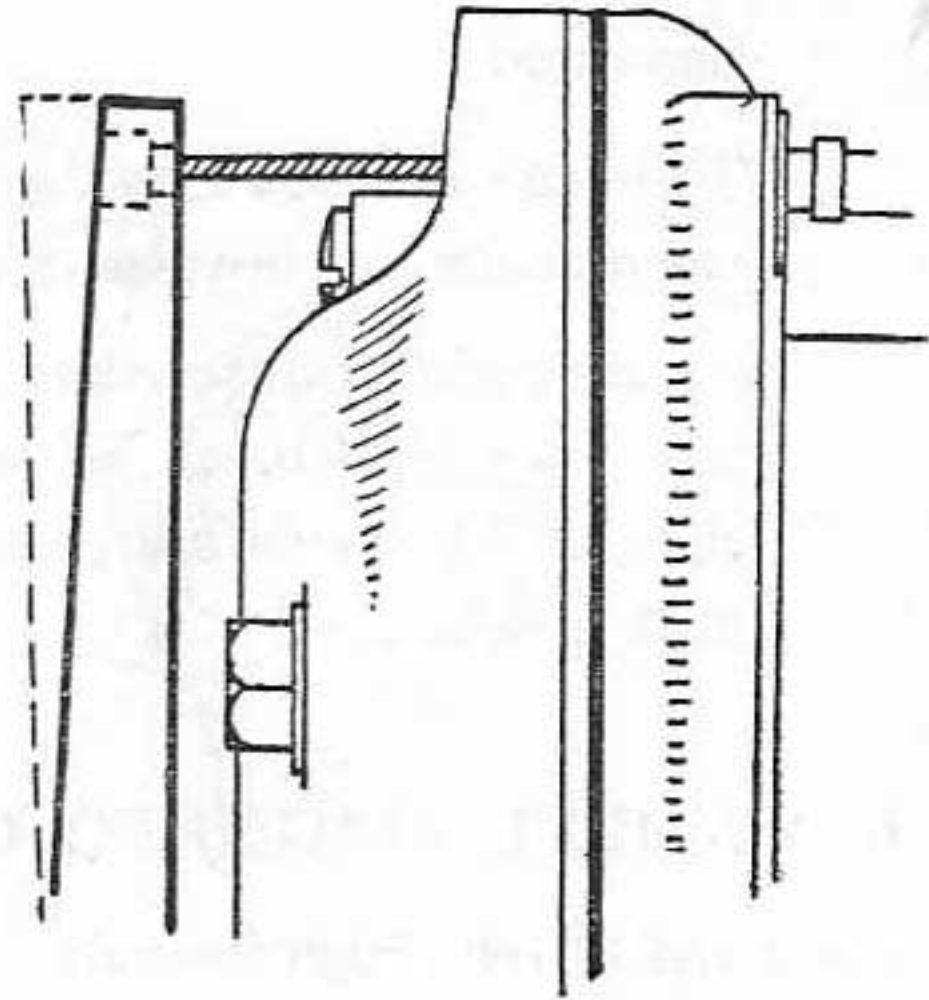

Fig. 3
2. Engines with exposed clutch lever (See Fig. 3)